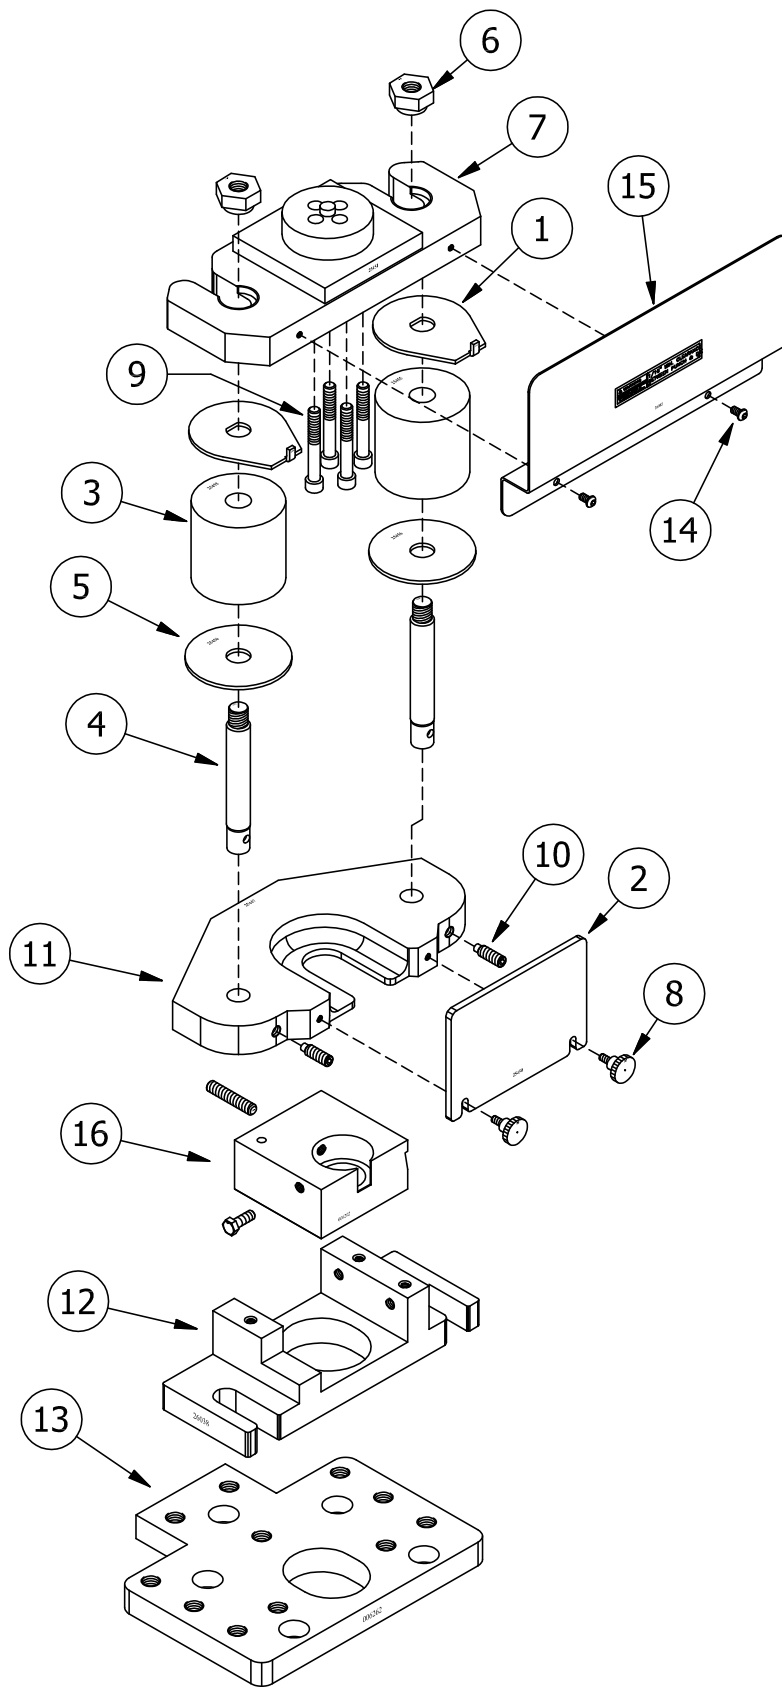

FIGURE 42
3. Lower the Shear Arm to the full down position. Replace the Shear Blade and the lower blade support. Place a business card or shipping tag (approximately .010 in. thick) between the blades one at each end of the blades and one in the middle. Hold the blades firmly together and partially tighten the four socket head retaining screws (D) that hold the lower blade support (C) in place. Adjust the back-up screws (E) firmly against the lower blade support (C). (Do not tighten so as to compress paper shims between the blades.) Tighten the four socket head retaining screws (D) to approximately 100 ft.-lbs. torque and lock the back-up screws (E) with the lock nuts.
5. This adjustment will give a blade clearance of .005 to .010 thousandths of an inch (.12 to .25mm). If the machine is being used to shear thicker sections of plate (1/2 inch (12mm) or thicker), we recommend increasing the clearance. A clearance of 5 to 7 percent of the material thickness is recommended. For recommended clearances, SEE FIGURE 42 ON THE FOLLOWING PAGE.
6. Replace the Shear Table (K).